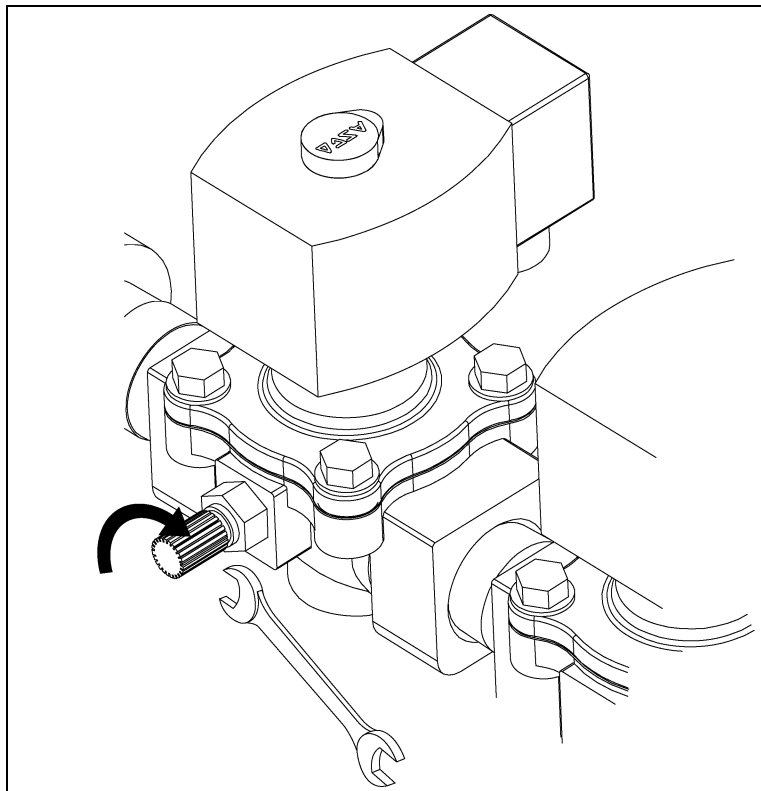

Figure 5V
5. Lock cycle valve adjuster. (See Figure 5V.)